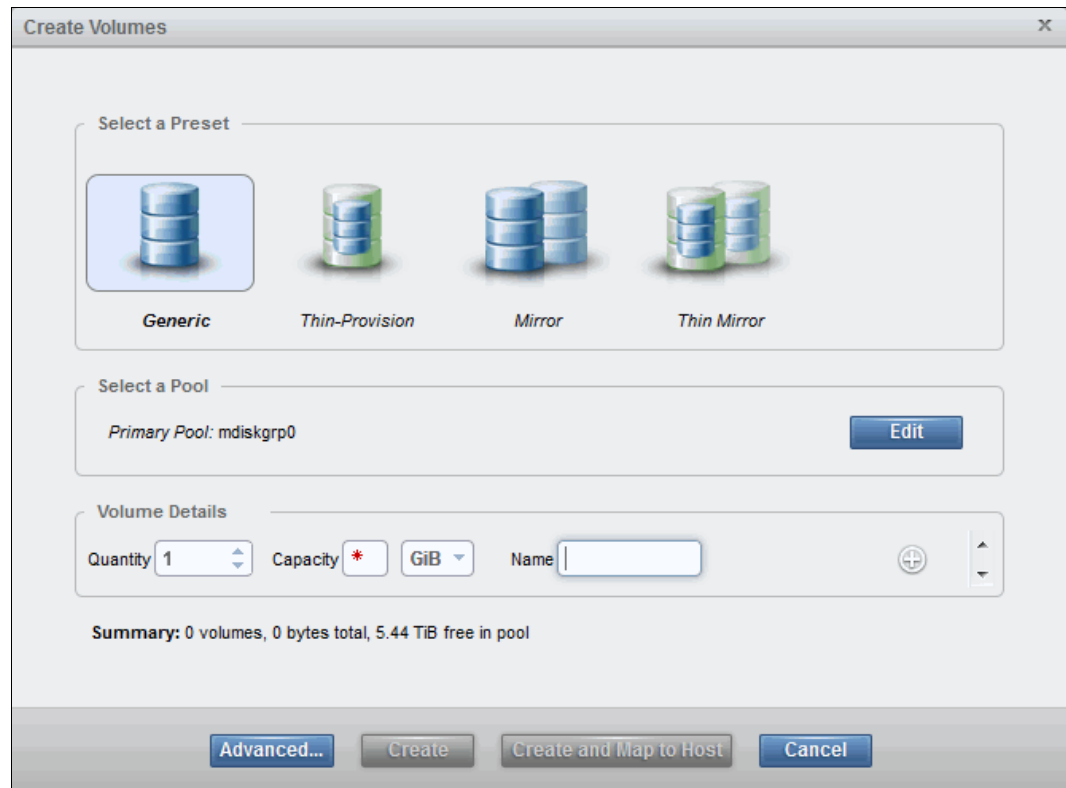

Figure 5-4 Creating generic volumes using the Create Volumes wizard
1. Select **Generic** as the preset, as shown in Figure 5-4.
2. From the list shown in Figure 5-4, select a pool to provision storage from.
3. The view shown in Figure 5-4 opens. From here, you can choose how many volumes to create, the capacity of each volume, and what to name the volumes.